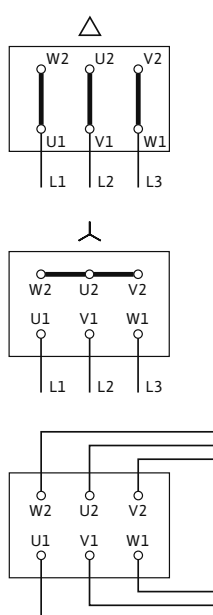

Fig. 17: Mains connection
The connection diagram for electrical connections is in the cover of the terminal box cover (see also Fig. 17).
- The mains connection is dependent on the motor power P_2 , the mains voltage and the activation type. The recommended switching arrangement of the connection bridges in the terminal box should be taken from the following list "Tab. 4: Connection terminal assignment" on page 45 and Fig. 17.